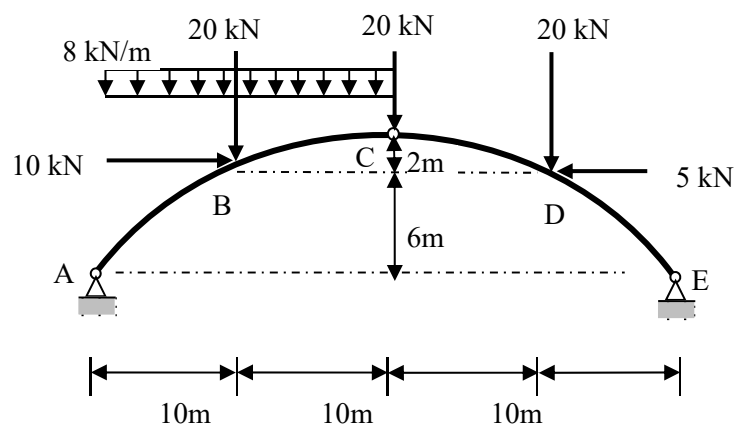

Figure 5/Rajah 5
- [b] The three-pinned parabolic arch in **Figure 5** supports vertical point loads of 20 kN, 20 kN, 20 kN at points B, C, D. Apart from that, horizontal point loads 10 kN and 5 kN act at point B and D, respectively. It also carries a uniformly distributed load of 8 kN/m on span ABC. Determine the support reactions, bending moment at B and D and the shear force, Q and thrust, N at point D (with loading).